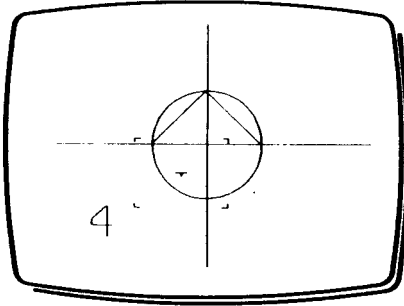

Fig 5
- 2 Move **XY** and rotate **Z** to frame a quarter of the circle with the cursor, as (4) in Fig 5.